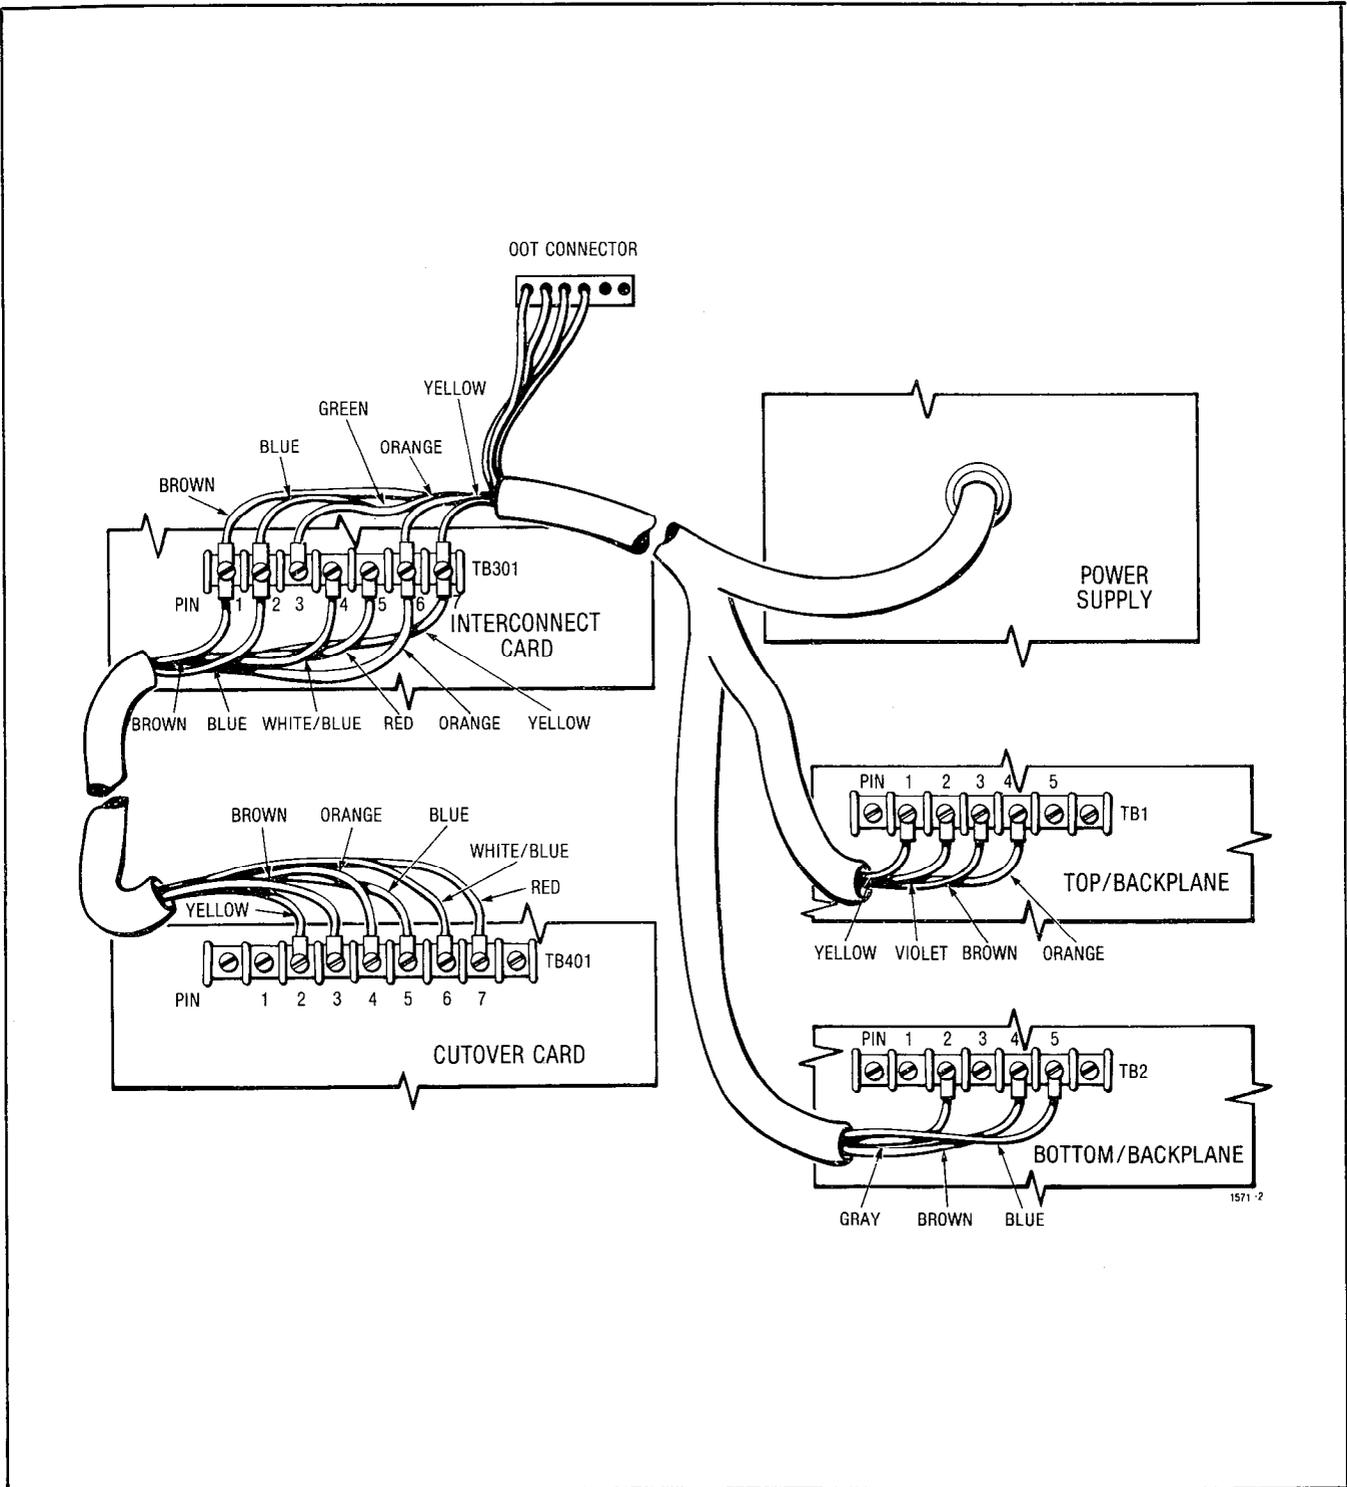

Fig. 512-2 Wiring Diagram
- [3A] Disconnect all terminal blocks on; Power Fail Transfer cards, Interconnect card and Shelf Backplanes (Fig. 512-2)